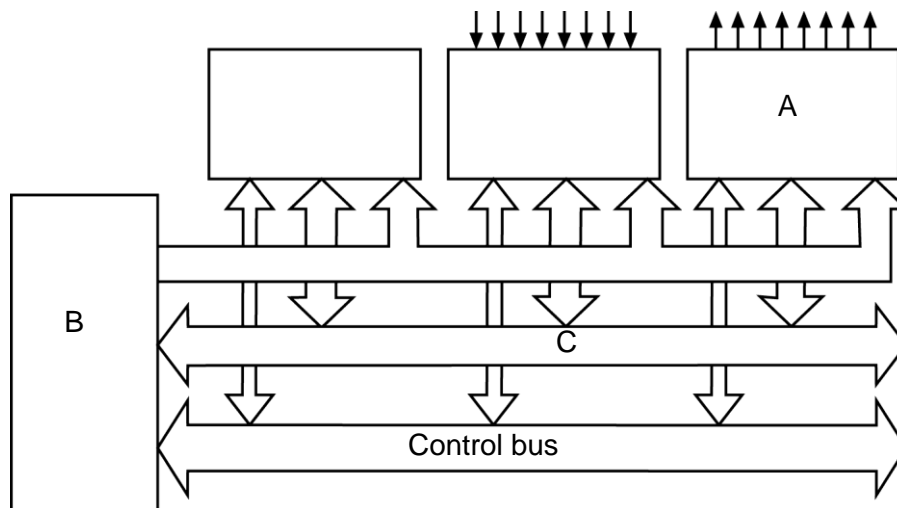

Figure Q2
2. The diagram in Figure Q2 shows the basic architecture of a microcontroller. Some elements have been labelled with the letters A, B and C.
- (a) State which row in the Table Q2(a) correctly lists the names of the elements labelled A, B and C in figure Q2.